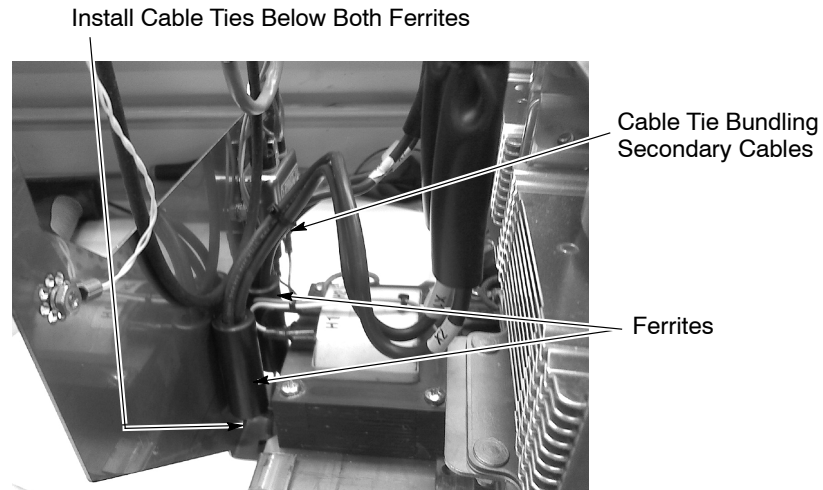

Figure 6-22 Installing Cable Ties on Secondary Cables
9. See Figure 6-22. Arrange the secondary cable ferrites of both transformers as shown. Install cable ties below the ferrites to prevent them from sliding down the secondary cables, then install another cable tie joining both pairs of secondary cables approximately 2 in. (51 mm) above the ferrites.